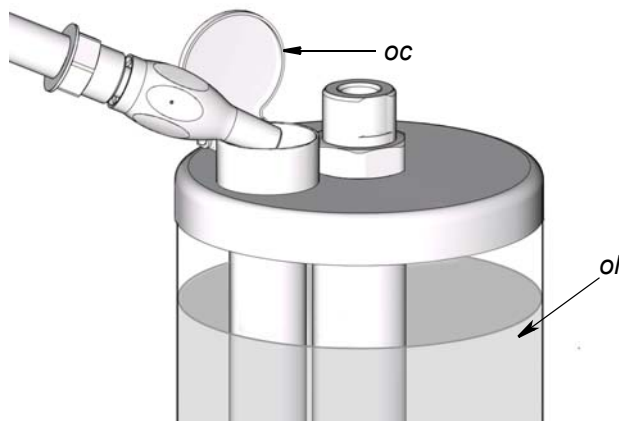

FIG. 5
2. Slowly add oil (*o*) until reservoir is filled to capacity (FIG. 5). Take care to not fill reservoir too quickly and overflow the reservoir capacity.
3. Close oil fill cover (*oc*) to prevent contamination and spillage (FIG. 5).